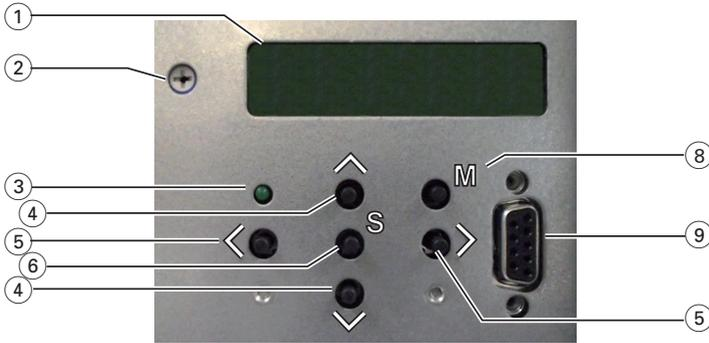

Fig. 24
→ The mode indicator ③ (fig. 24) is activated.
- Adjust the contrast of the display using the button ② (fig. 24).